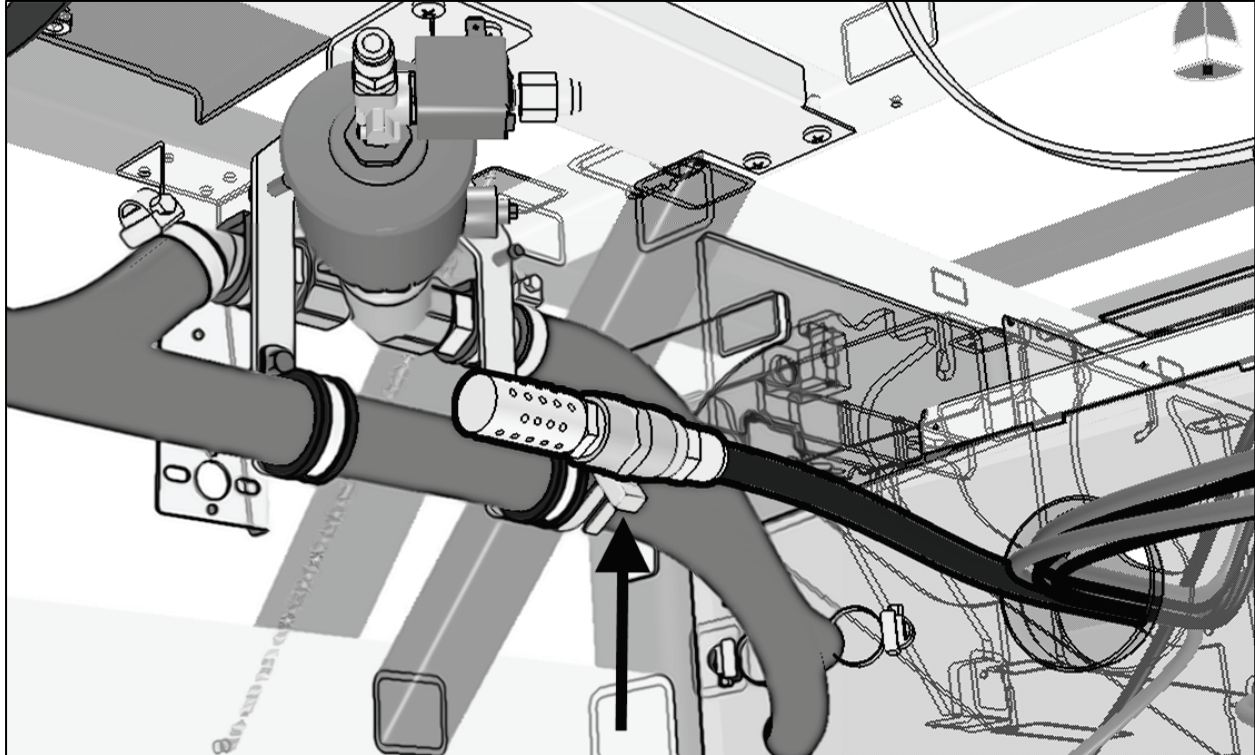

Figure 5
- 5) Attach tube to hot water valve hose with double head cable tie.(Fig. 5)